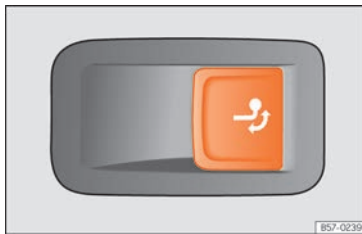

Fig. 221 On the right side of the luggage compartment: button for unlocking the tow hook.
- Pull the »» Fig. 221 button briefly. The tow hook unlocks electrically and automatically turns outwards. The button's control lamp flashes.
- Pull the »» Fig. 221 button briefly. The tow hook unlocks electrically.
- If the warning light on the button »» Fig. 221 → flashes, this means that the tow hook has not been attached properly or is damaged »» ⚠.
- If the warning lamp »» Fig. 221 → remains on with the rear lid open, the tow hook is correctly in place both when extracted and when covered.
- Never press the »» Fig. 221 button when there is a trailer hooked to the vehicle or when a carrier system or other accessories are mounted on the tow hook.